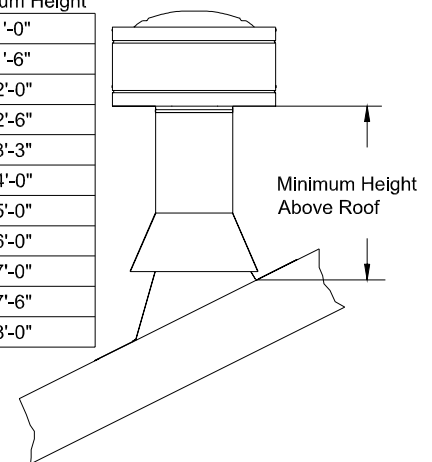

FIG. 13
11) Add lengths of pipe and firestop as necessary until assembly extends to a point above the roof which complies with local code requirements for minimum termination height and with the appliance manufacturer's installation instructions. See Figure 13.